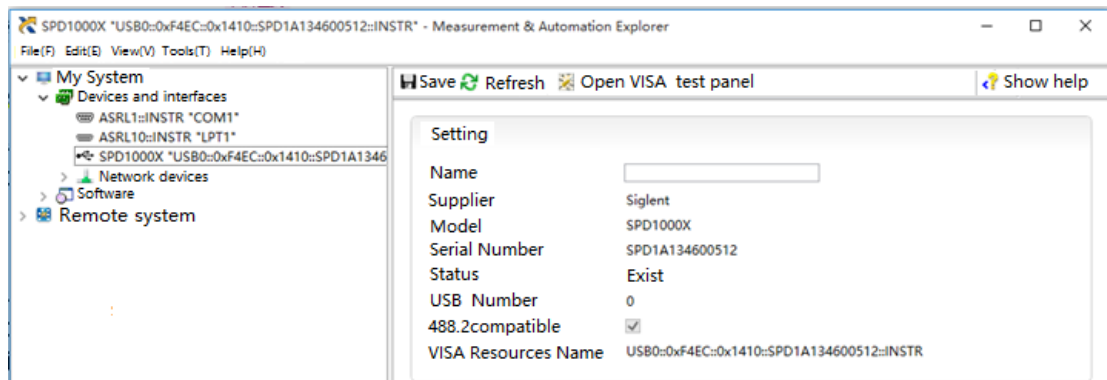

Figure 3-1
2. Click on the “device and interface” in the upper left corner, find the connected power supply information, click on the power supply device and click “Open VISA Test Panel” ,then pop up the bullet box. As shown in Figure 3-1 below.